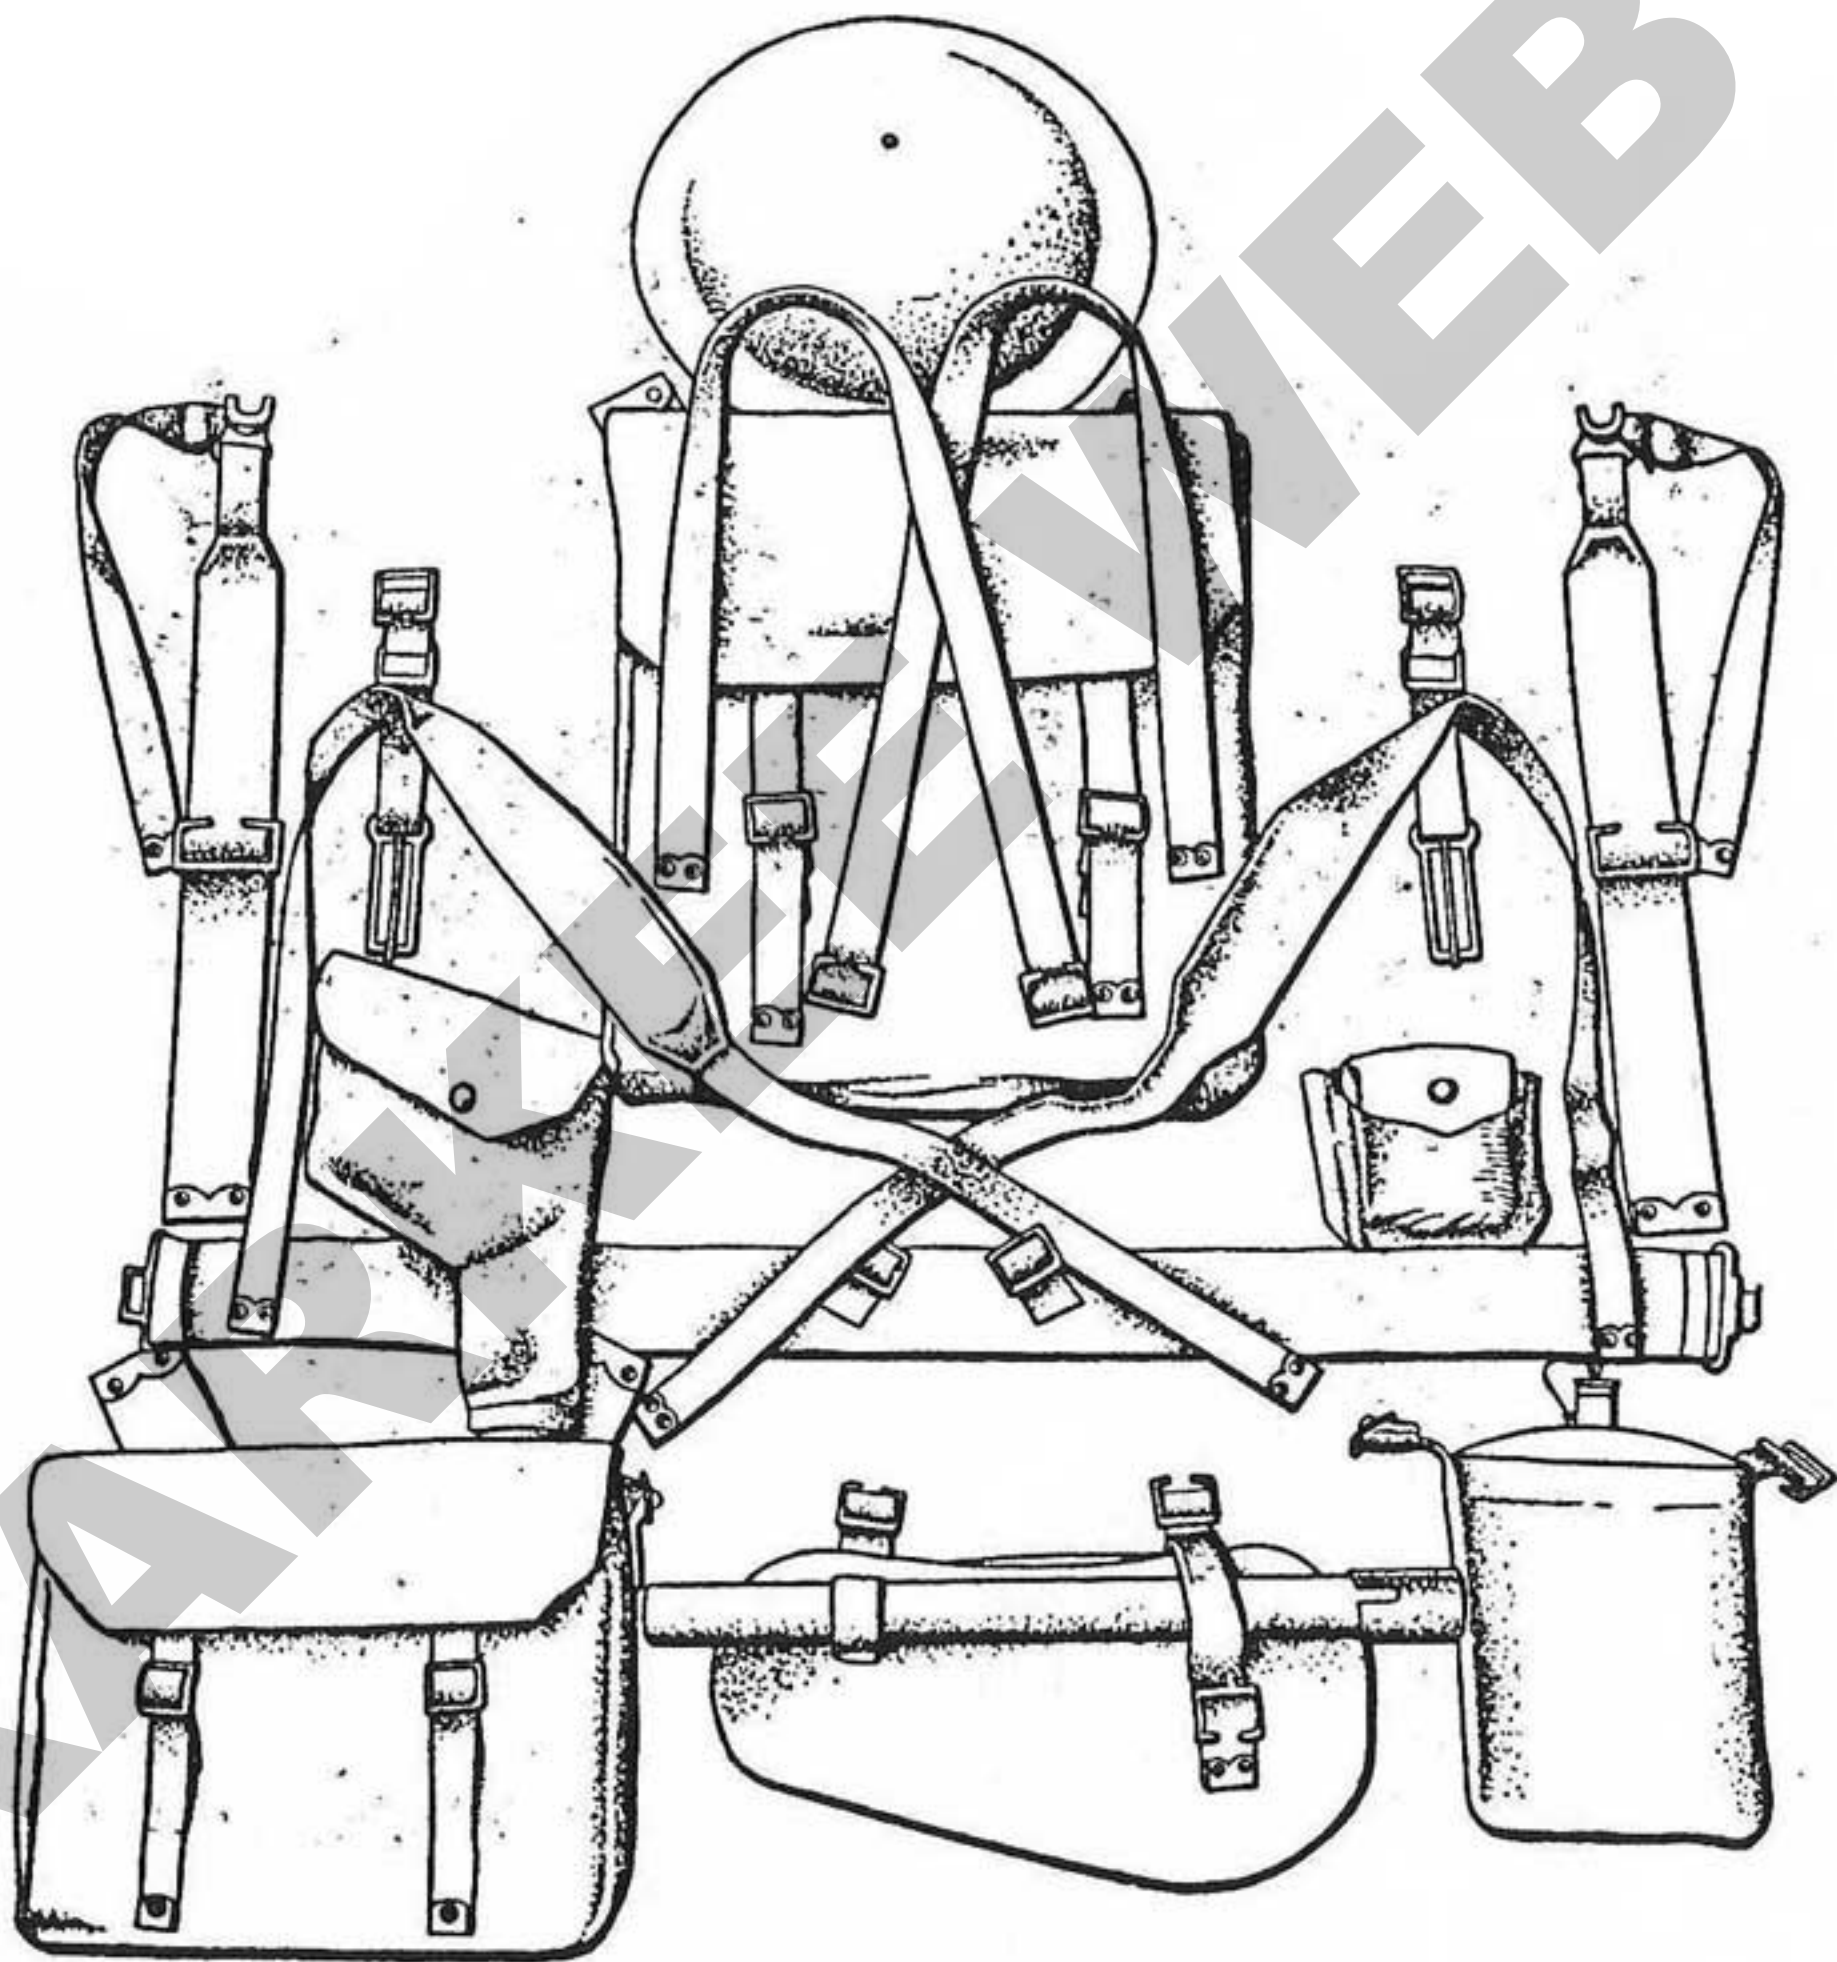
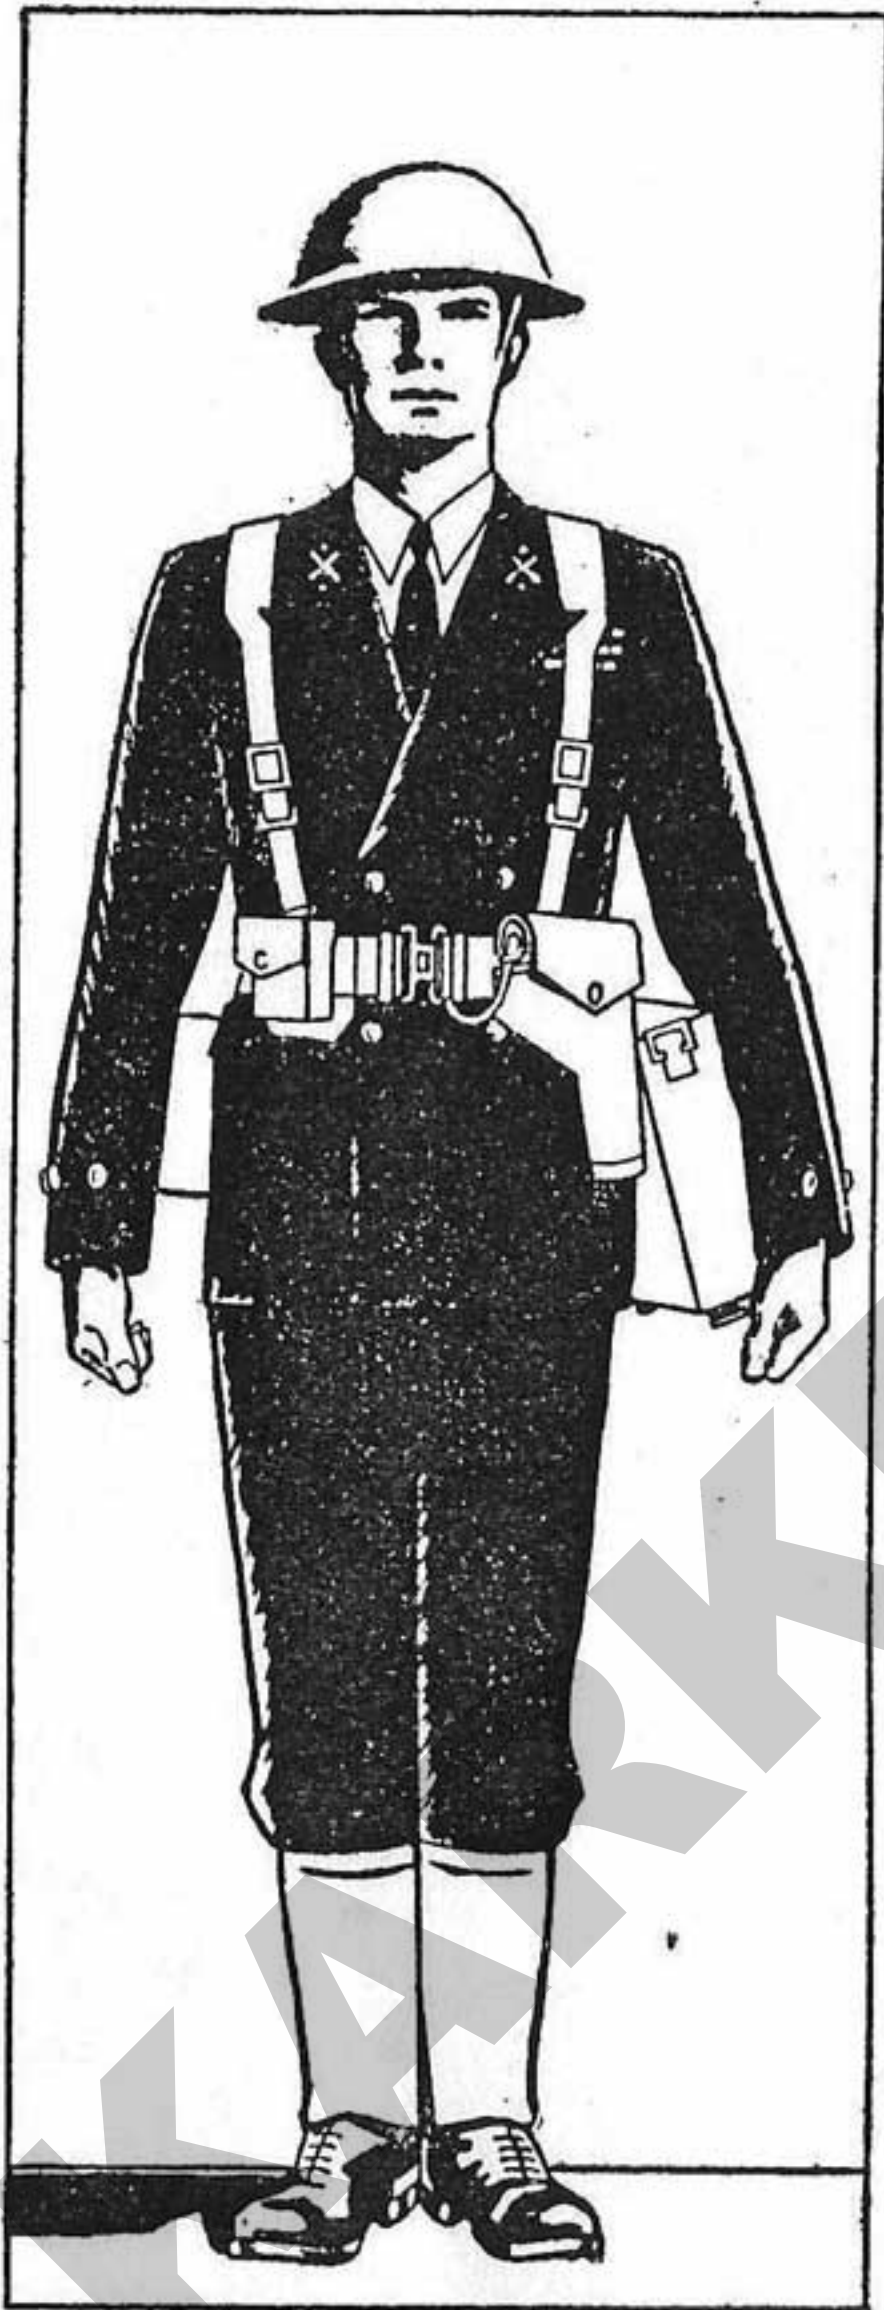

Fig. 21. Pistol equipment ready for assembly, showing each item
Fig. 22. Pistol equipment marching order—front view
24. These are made up on similar lines to rifle equipment. Fig. 21 shows a complete marching order ready for assembly, and Figs. 22 and 23 show the front and rear view of an assembled marching order.